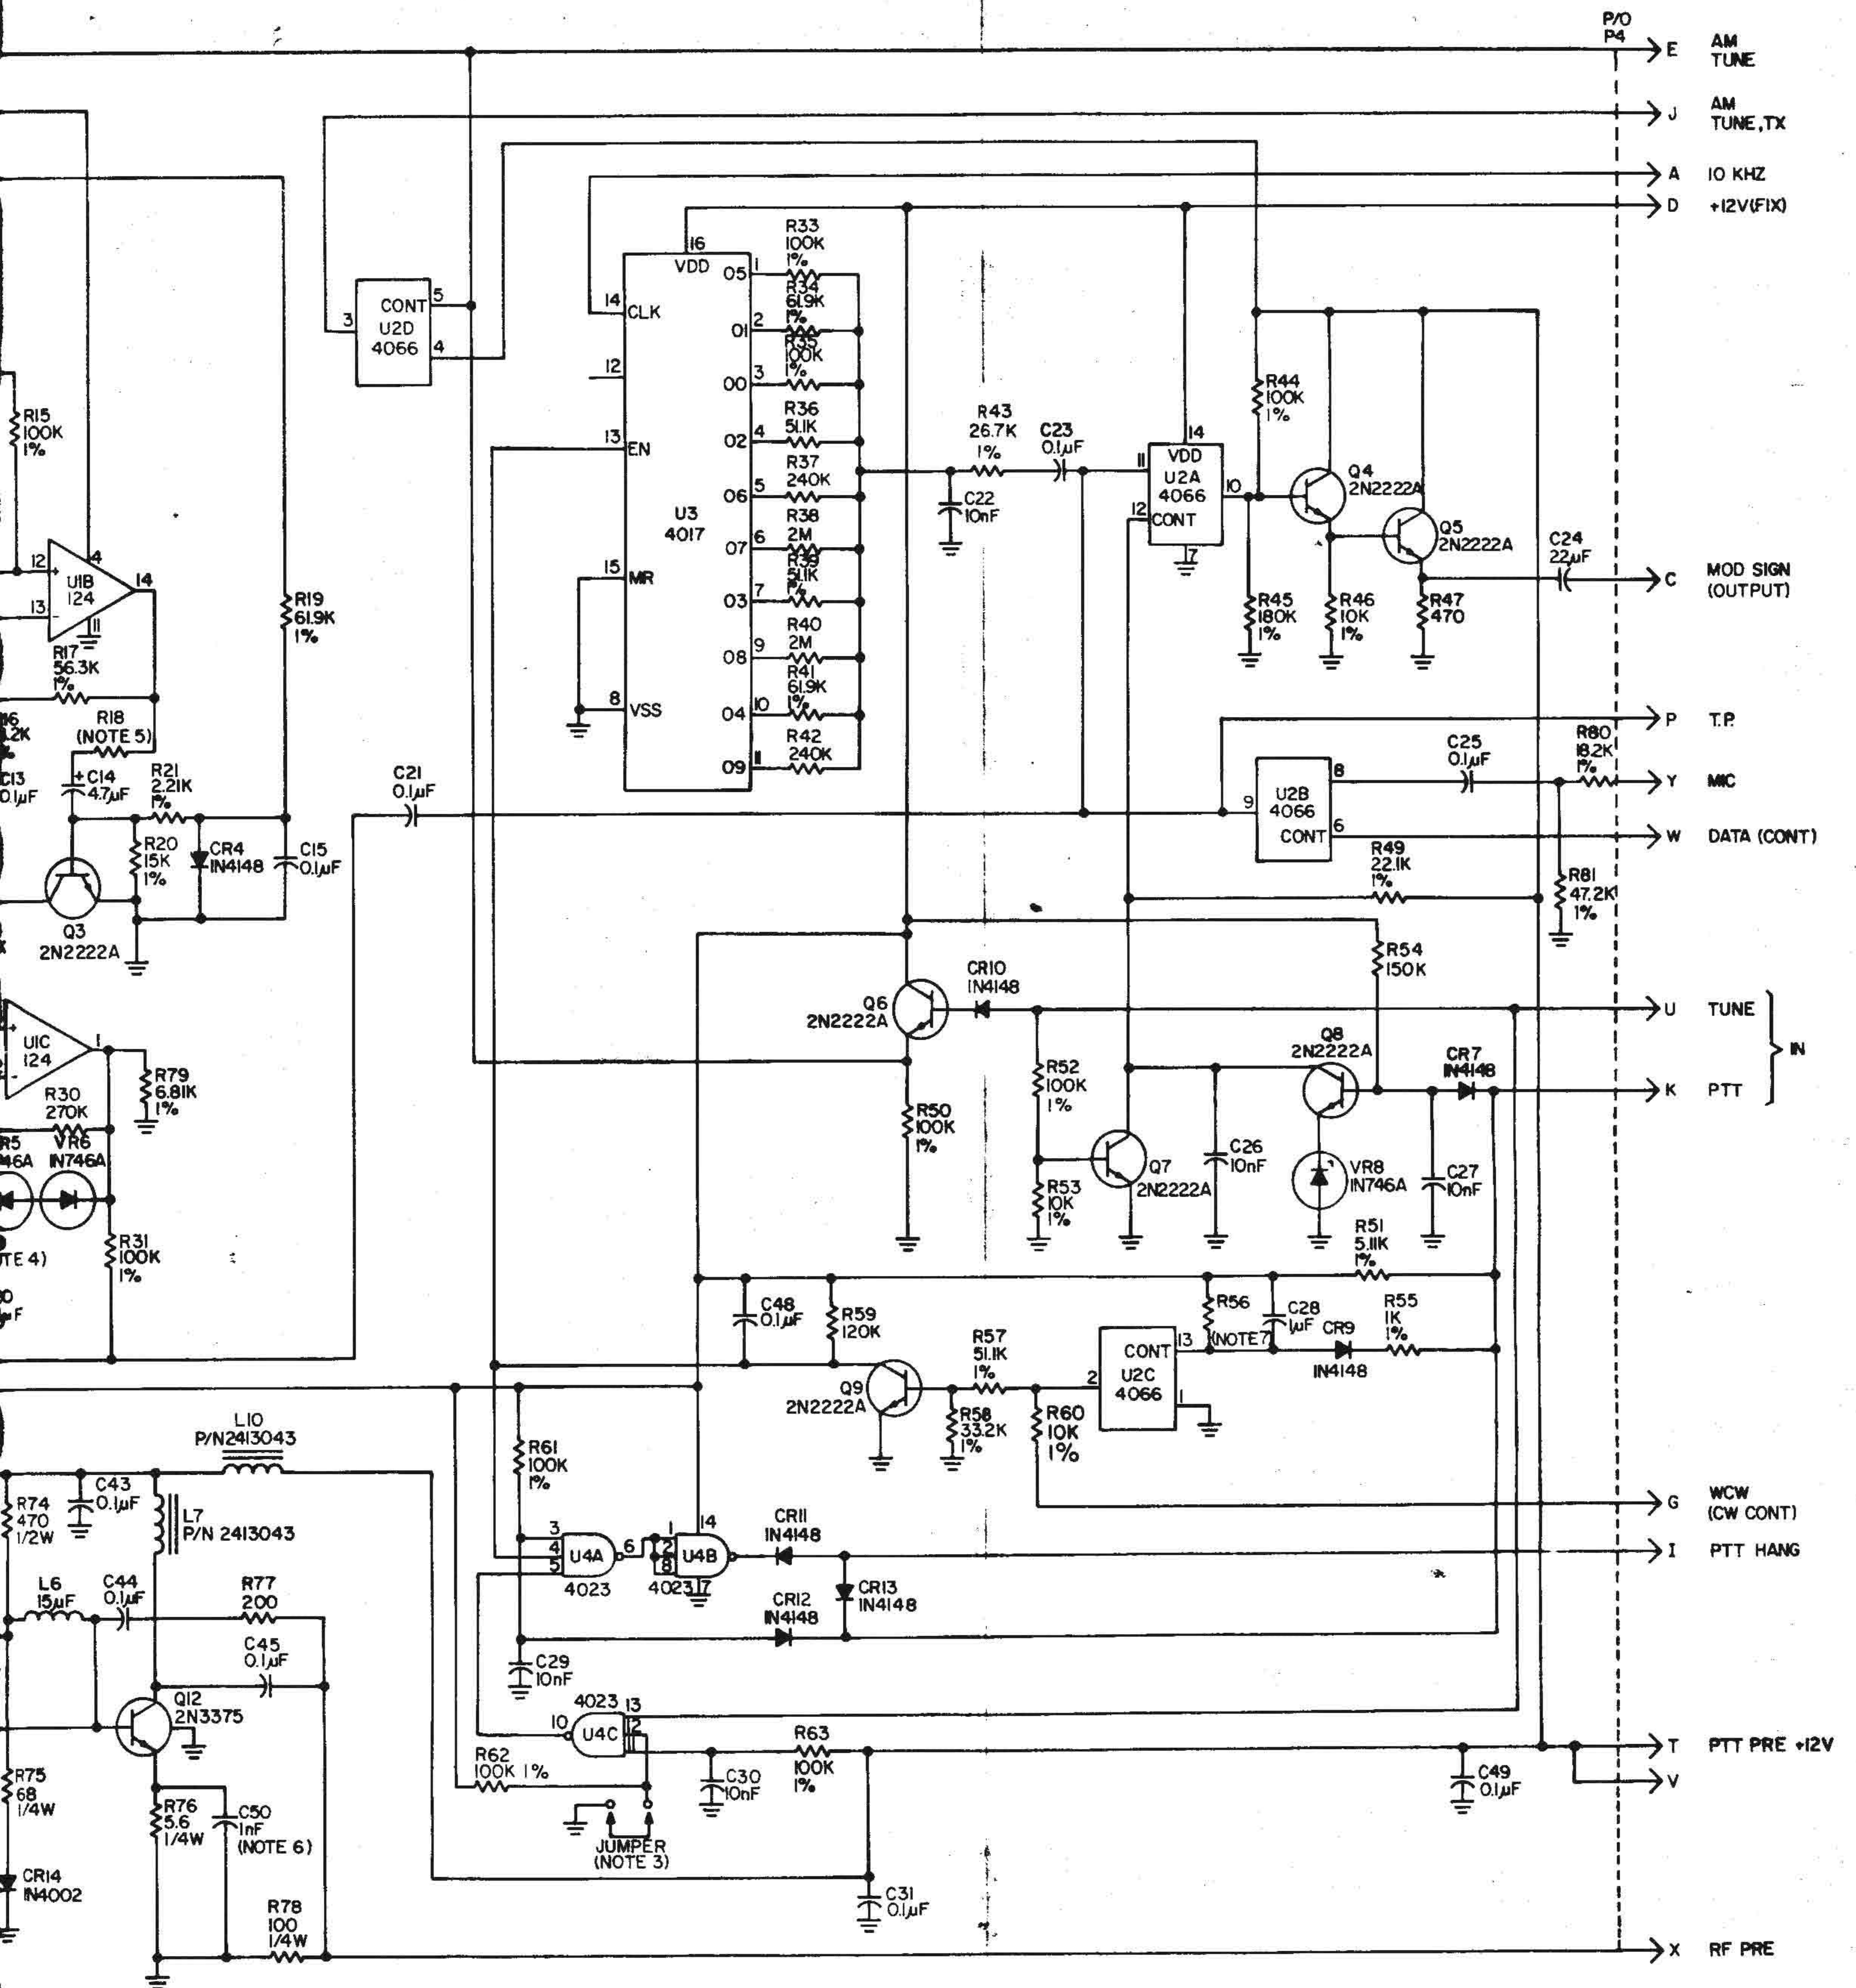

Fig. 2-6. Module PRE 1A2A4, schematic diagram
b. Circuit Analysis (fig. 2-6 through 2-10).
(1) Audio compression amplifier and clipper (AM/SSB speech processor) (fig. 2-6, 2-7). This circuit amplifies the microphone signal and performs compression and clipping to obtain a constant level audio modulation signal with a low peak-to-average power ratio. The complete circuit is powered only during AM or SSB operation, by the +12V voltage supplied via the AM CONT (pin S) or SSB (DATA) (pin B) line from the mode selector on the front panel assembly.
(e) The compressed speech signal appearing at the output of U1A is coupled through capacitor C17 to the clipping amplifier U1C (fig. 2-6).
(2) 1-kHz synthesizer (fig. 2-6, 2-8). During CW operation, a 1-kHz signal is generated by U3. This integrated circuit is a decoded BCD counter. U3 receives a 10-kHz clock signal from module REF 1A3A6. The counter outputs are normally low, except for the one which corresponds to the internal state of the counter. Resistors R33 to R42 convert each state to a current value, which is integrated by C22. The cyclic succession of the states causes the voltage across C22 to vary almost sinusoidally, thereby synthesizing the 1-kHz signal. The counter may change state only when the level applied to pin 13 (EN) is low. This condition occurs only when the PTT line is activated and the function selector is at WCW or NCW.
(3) Modulation signal selector (fig. 2-6, 2-9). The simplified selector circuit is shown in fig. 2-9: its purpose is to select the desired signal and apply it to the input of the modulation switch, U2A.
(4) Control signal generation (fig. 2-6, 2-10).